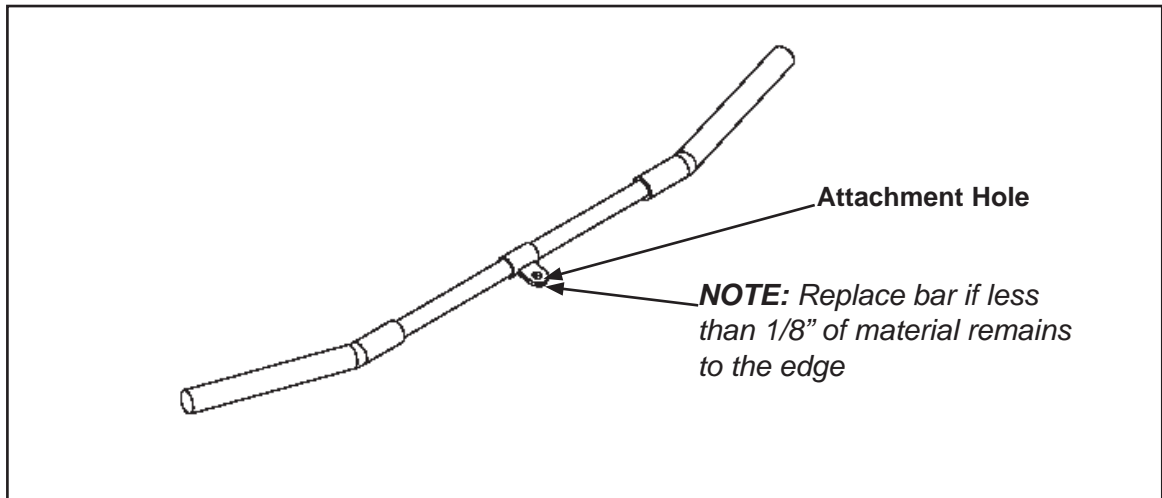

Figure 5
**CAUTION: Replace all worn handles immediately. Do not use if less than 1/8" of material remains to the edge. See Figure 5.**